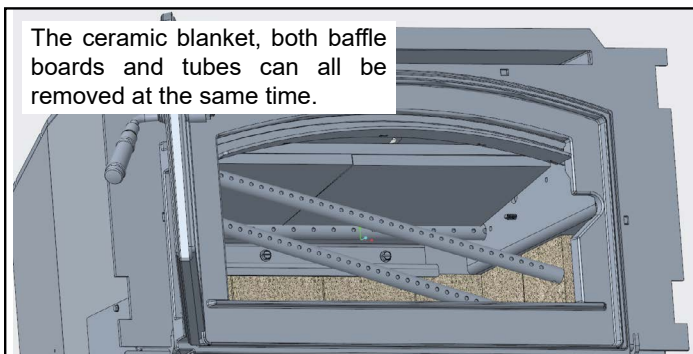

Figure 20.2
4. Slide the tubes to the left as far as it will go and lower the right side. Remove the baffle boards and ceramic blanket together (**Figure 20.2**).